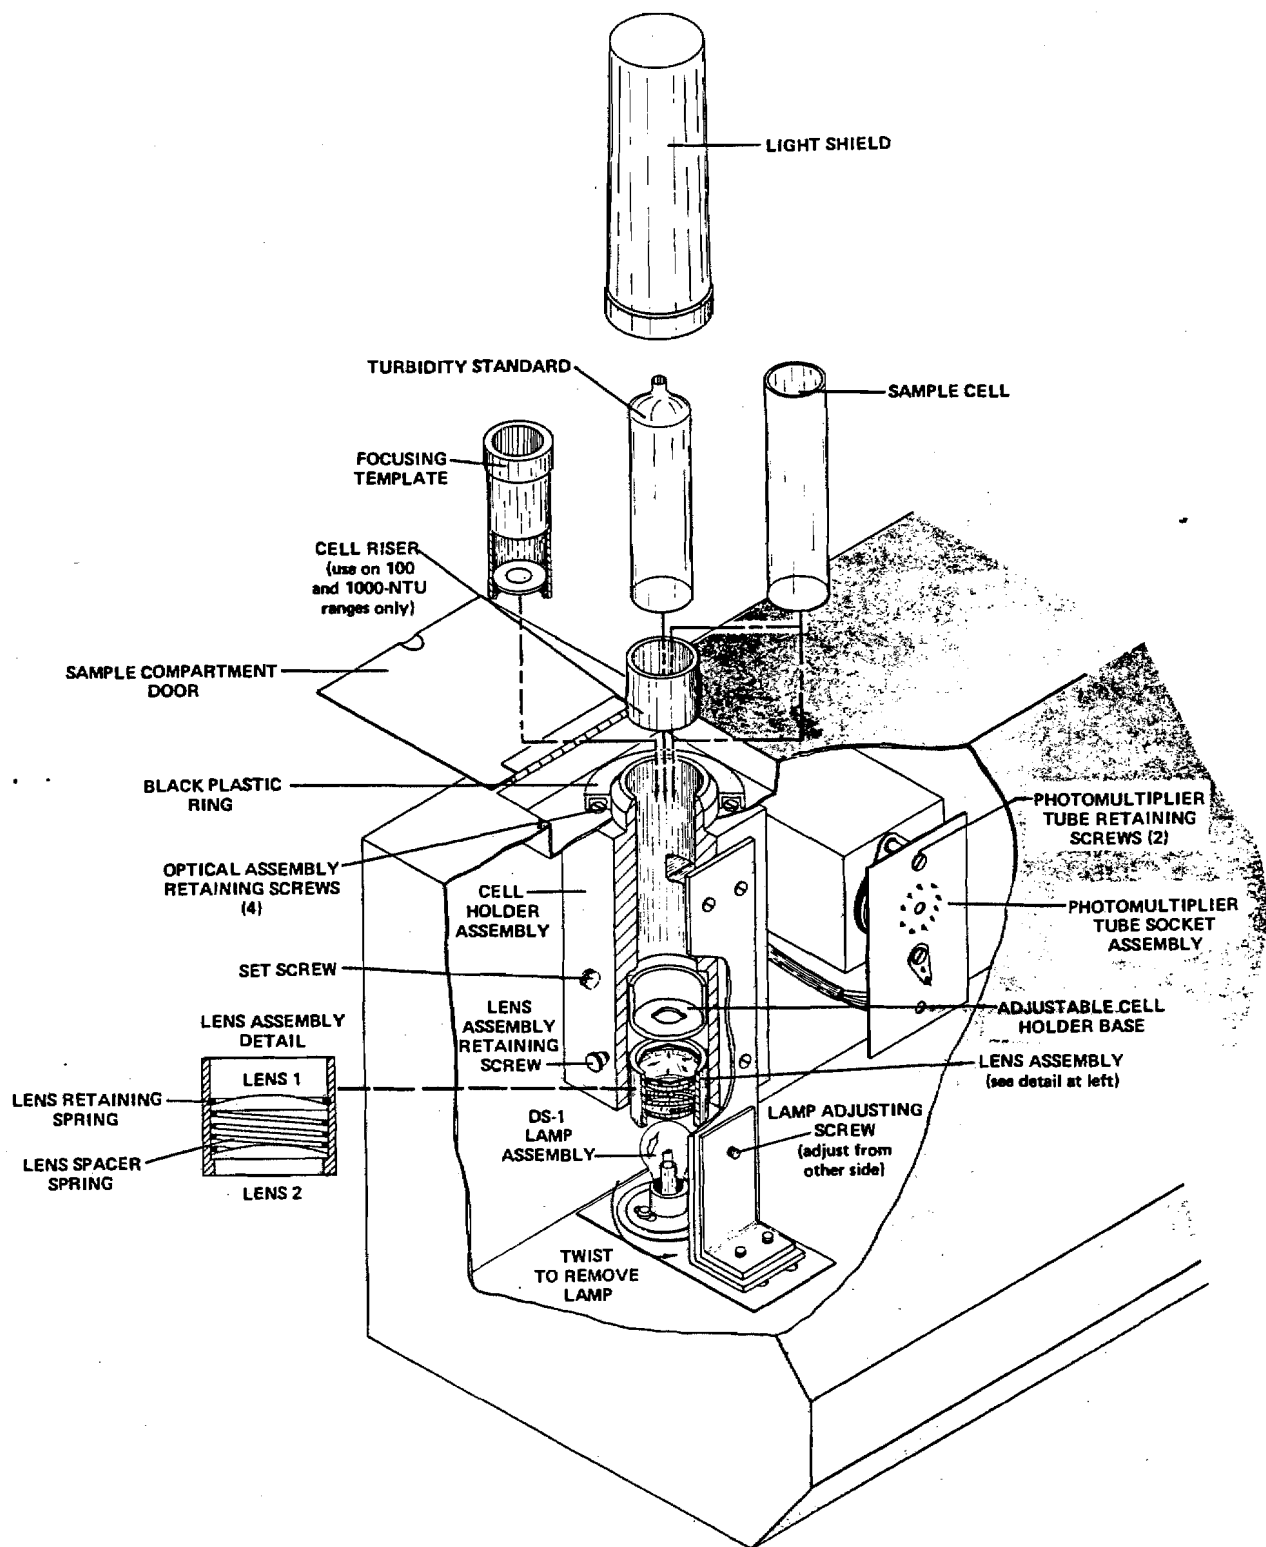

FIGURE 3
When measuring turbidities on the 0 - 100 and 0 - 1000 NTU ranges, a cell riser is inserted into the cell holder assembly to raise the sample cell. See Figure 3. The riser decreases the light path length which results in increased linearity in the measurement of high turbidities. A foam and plastic retriever tool is included with the accessories to remove the cell riser from the instrument.
Instrument standardization is achieved with the aid of four liquid turbidity standards, one for each range except the lowest. The turbidities of all four standards are based on Formazin dilutions. The standards (furnished with the instrument) are rated at 1, 10, 100 and 1000 NTU and are contained in sealed glass tubes. The first (1-0) is a high molecular weight polymer dissolved in water and the other three standards are liquid latex solutions. When placed in the instrument, the standards scatter an amount of light proportional to the NTU ratings specified on the tubes. Standardization is accomplished by selecting the desired range, placing the appropriate standard in the instrument and, with the light shield in place, adjusting the STANDARDIZE control to obtain a meter reading equal to the NTU value of the standard. When standardizing the 100 and 1000-NTU ranges, the cell riser must be used. See Figure 3.
Unplug the power cord and open the back panel of the turbidimeter. The lens assembly is held in place by a brass retaining screw on the side of the cell holder assembly. *See Figure 3.* Before removing the lens assembly, be sure to mark its original position in the cell holder so that the factory focusing of the instrument is not changed when the unit is reassembled. Wipe each lens with a tissue or towel that will not leave an oil film.
2. View from above, through the sample cell holder opening. The lamp image must be centered in the circle of the focusing template. If it is not, loosen the lamp adjusting screw directly above and behind the lamp. *See Figure 3.*
7. Remove the lamp by twisting approximately 1/8 of a turn counterclockwise (looking down on bulb). *See Figure 3.*
3. Open the sample compartment door on top of the instrument and carefully remove the black plastic ring inside. *See Figure 3.*